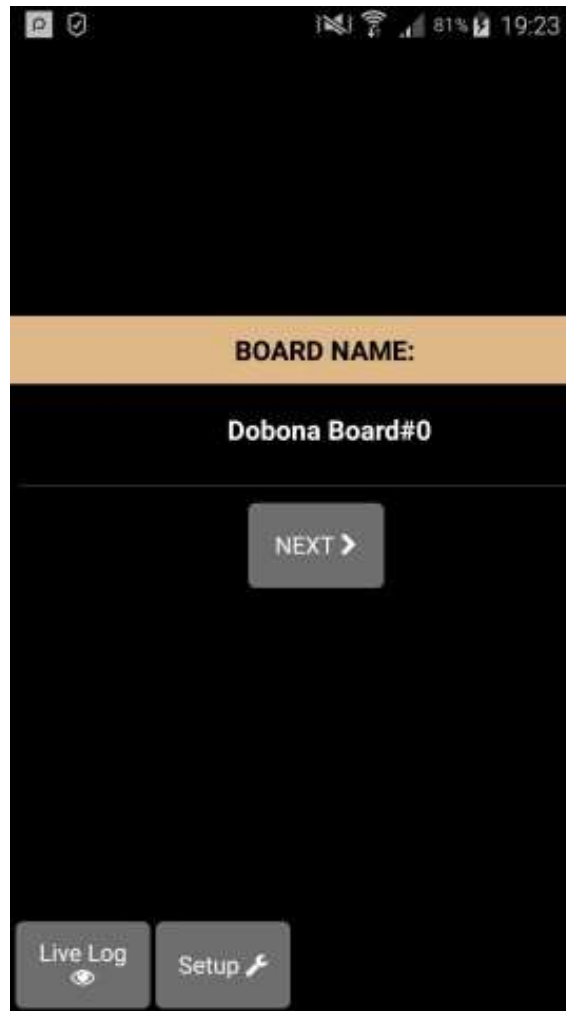
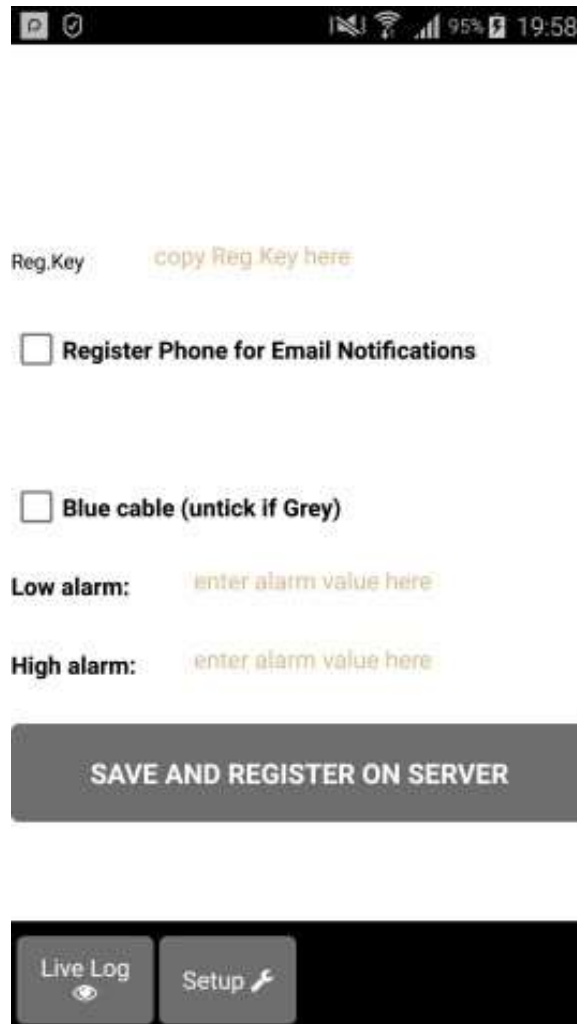

Fig 4.
Fig 5.
7. HE IS THEN PRESENTED WITH THE NEXT SCREEN WHERE HE IS PROMPTED TO ENTER A NAME FOR THE DOBONA BOARD HE CHOSE (Fig.4). SUPPOSING HE WRITES "gas_tank" AS NAME AND MAKES SURE THE PHONE/TABLET HAS AN INTERNET CONNECTION, AND PRESSES ON THE NEXT BUTTON, HE/SHE IS TAKEN TO A NEW SCREEN TO REGISTER THE BOARD ON THE PHONE/TABLET (Fig.5).